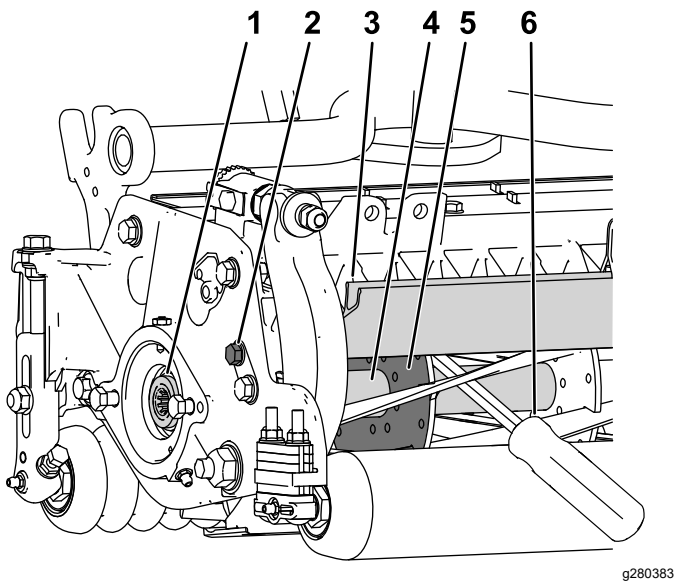

Figure 28
1. Loosen the shield-bolt on the left side of the cutting unit and raise the rear shield (Figure 28).
2. Insert a long-handled pry bar (recommended 3/8" x 12" with screwdriver handle) through the back of the cutting reel, closest to the side of the cutting unit that you will be torquing (Figure 28).
3. Place the pry bar against the weld side of the reel support plate (Figure 28).